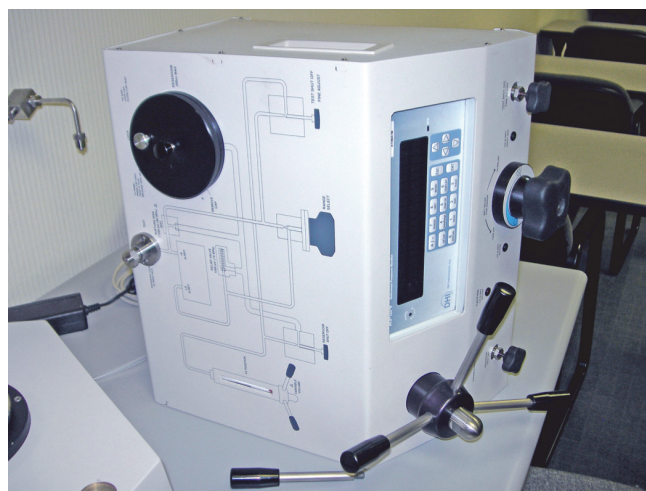
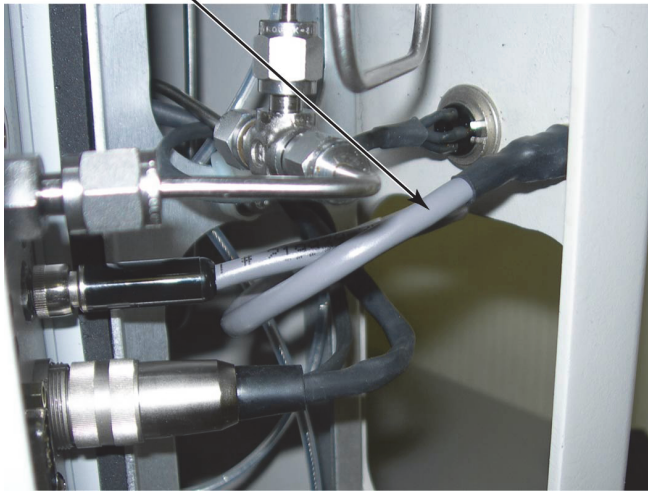

Figure 2: E-DWT on its side with one handle removed
Figure 4: E-DWT internal view detail:
- ⑥ *Loosen the hex nut using a 3/8 inch socket. If recessed area is too small to allow the socket to fit, use needle nose pliers.*
- ⑦ *Locate the internal 12V cable that connects to the RPM4 (see Figure 4).*
- ⑪ *Remove the hex nut and washer from the heat-shrunk connector, (see Figure 4) insert the connector through the E-DWT housing, and secure it to the outside of the housing using the washer and hex nut that was just removed. The washer should be installed on the outside of the housing directly under the nut. It is recommended to use Loctite 222MS or similar on the nut to help ensure it does not come loose.*
- ⑫ *Reposition the E-DWT on the table in its normal upright position.*
- ⑬ *Replace the variable volume handle that was removed. (see Figure 2)*